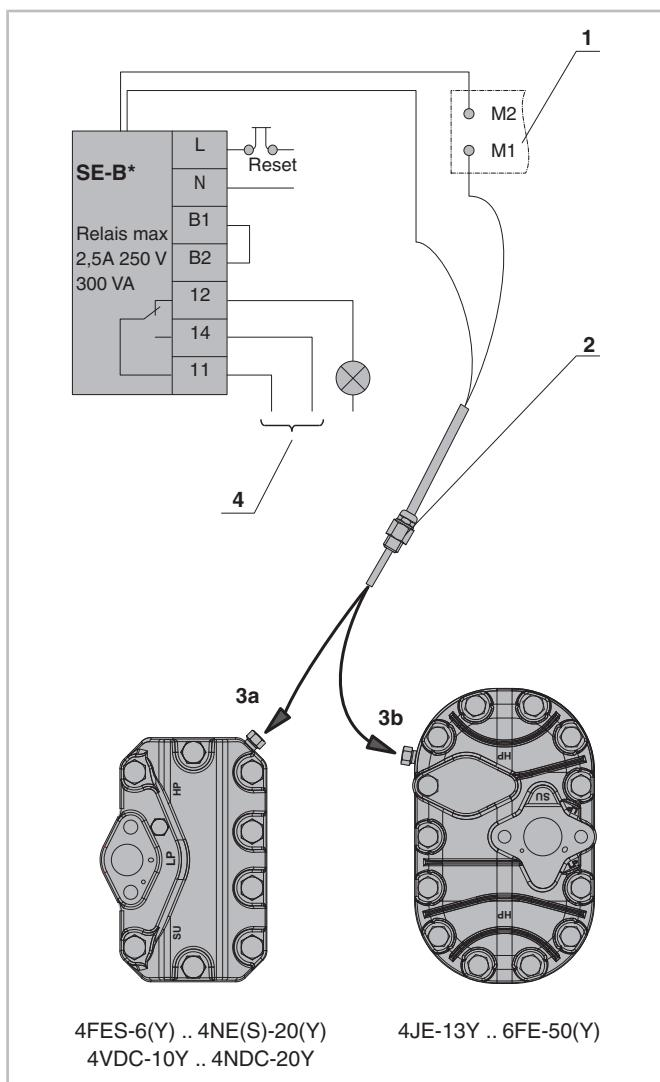

Fig. 21: Discharge temperature sensor for start unloading
- Compressors with integrated start unloading: The sensor must be incorporated in the start unloading cylinder head (see figure 21, page 20).
- Connect the instrument leads in series to the motor temperature sensors (see adhesive label in terminal box) and see figure 21, page 20.